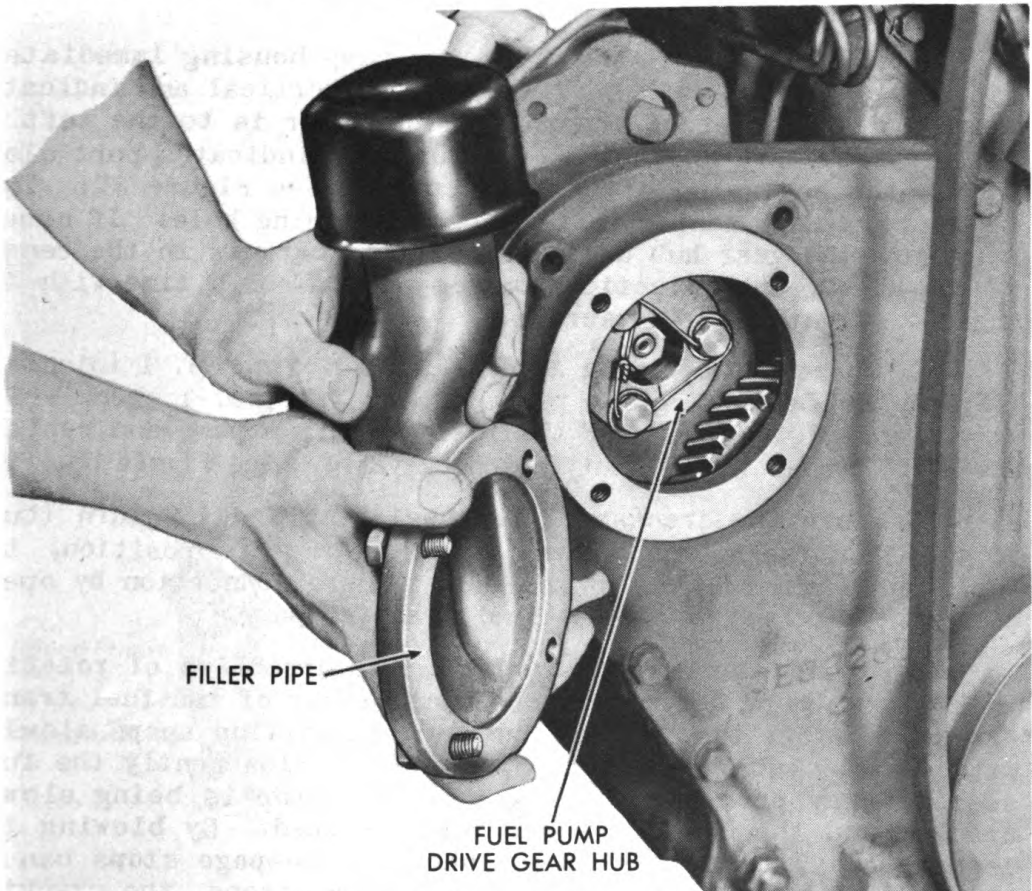

Figure 35. Removing Oil Filler Pipe
2. Drain and remove the radiator. Remove the oil filler pipe. See Figure 35.